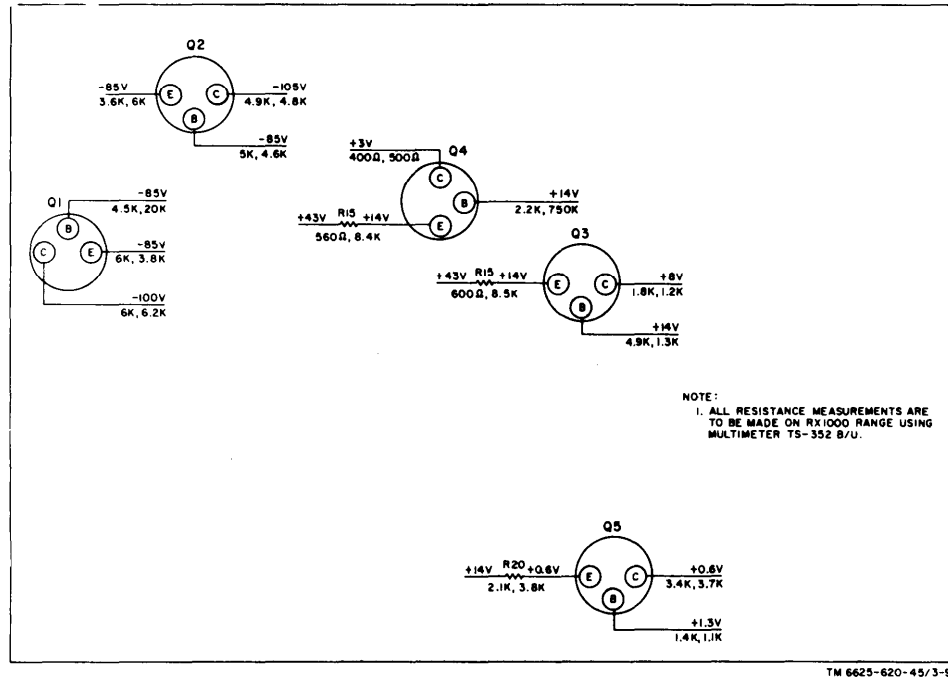

Figure 3-7. Power supply assembly 3A1A2, voltage and resistance diagram.
a. Emitter Current Measurements. Use the meter and meter ranges specified in figures 3-7 and 3-8. Note that figures 3-7 and 3-8 include the voltage and resistance measurements across the emitter resistors. By using Ohm's law ($I = E/R$), the emitter current can be determined without breaking the circuit.
- (1) In-circuit resistance measurements of assembly 3A1A2 (fig. 3-7) were taken with the assembly in the TS-836/UGM-1. First, measure between the base and emitter and between the base and collector with the positive ohmmeter lead connected to the base and then measure between the base and emitter and between the base and collector with the negative ohmmeter lead connected to the base.